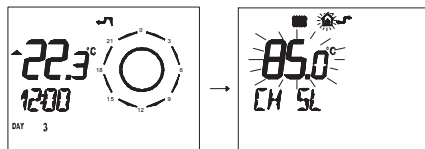

Fig. 7.32
- Press button  for more than 3 seconds to enter in **INFO** mode (Fig. 7.32).